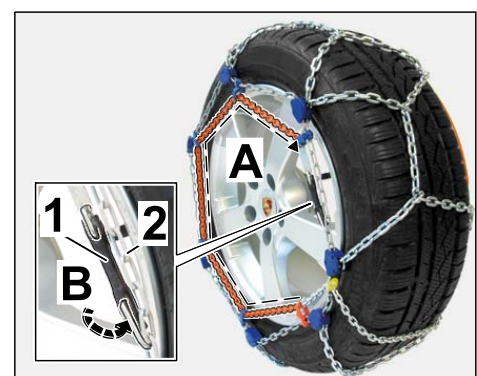
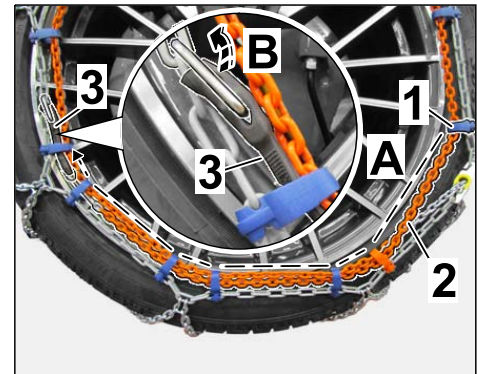

Figure 13
Figure 14
2.3.1 Guide tensioning chain after the locking plate to the orange plastic eyelet first (⇒ *Figure 13*).
2.3.3 Feed the rest of the tensioning chain in a circle (⇒ *Figure 13-A-*) over the complete wheel through the remaining plastic eyelets.
2.3.4 If the tensioning chain does not end at the last plastic eyelet: Feed the tensioning chain through the plastic eyelets again (⇒ *Figure 14 -A-*).
2.3.5 Engage hook of the bungee cord slightly tensioned into a chain link on the outer chain (⇒ *Figure 13 -B-* or ⇒ *Figure 14 -B-*).